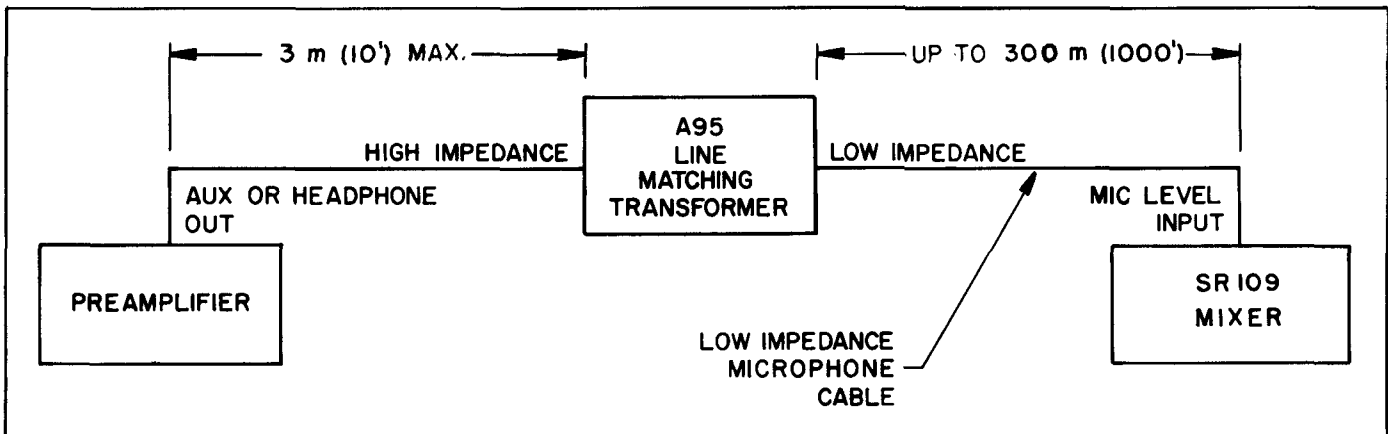

FIGURE 7. PREAMPLIFIER-MIXER CONNECTIONS
nel 7 or 8 jack with MIC/LINE Switch in LINE position). If the source is unbalanced, connect the cable shield to pin 1 and the hot conductor to pin 3 of the input jack. As an alternate connection, connect the preamplifier auxiliary output through up to 3m (10 ft) of cable to the high-impedance side of a line matching transformer (Shure A95 Series) as shown in Figure 7, Page 9. Connect the low-impedance side of the transformer through a low-impedance microphone cable (up to 300m—1000 ft) to a Mixer MICROPHONE LEVEL Input Jack (19). Adjust Mixer equalization controls for optimum sound. Adjust the Mixer 15 dB ATTENUATOR Switch (18) for the channel in use to provide the desired sound level with the channel Volume Control (1) set at about mid-scale.